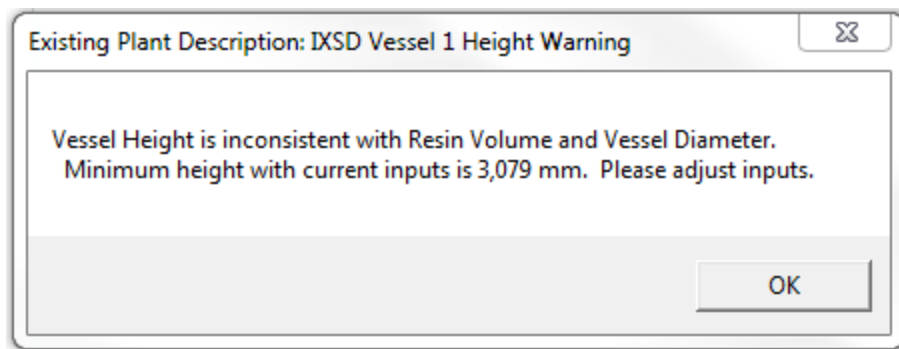

Figure 180. Existing Plant Description. Height Warning
- If the Vessel Height input is inconsistent with the Resin Volume and Vessel Diameter inputs, WAVE will issue a warning indicating the minimum required Vessel Height, as shown in Figure 180.